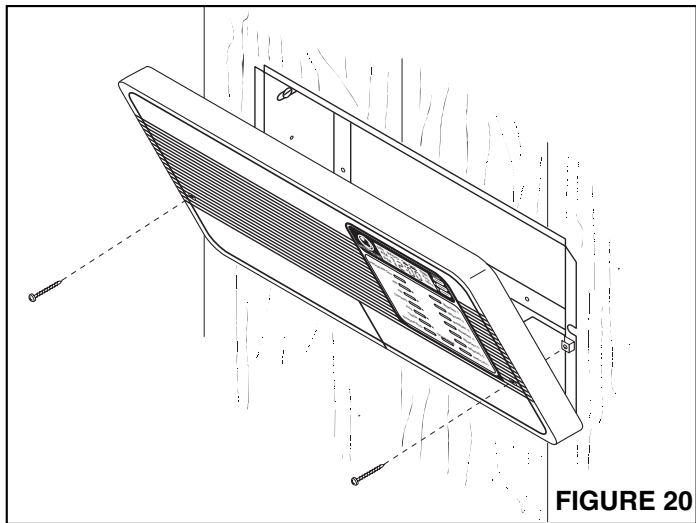

FIGURE 20
1. Refer to Figure 20. Inspect all wiring connections to make sure they are complete and correct.